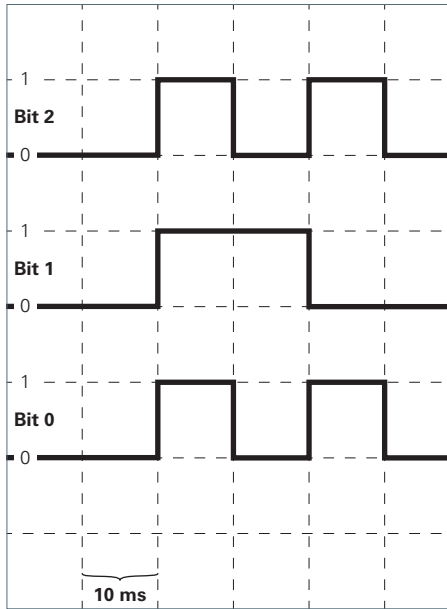

Fig. 6: Bit sequence for activating the operating mode "Combined operation WHITE+RGB".
- Send the bit sequence for activating to the connection cable with the white luminaires and the RGB luminaire, see Fig. 6.